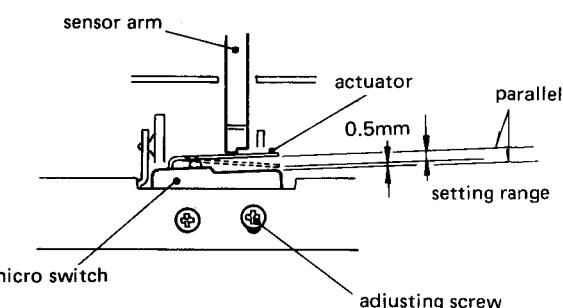

Fig. 4-3
- Adjust mounting position of two micro switches, cassette-in switch and record safety switch, so that the actuator position is in the setting range shown by Fig. 4-3.